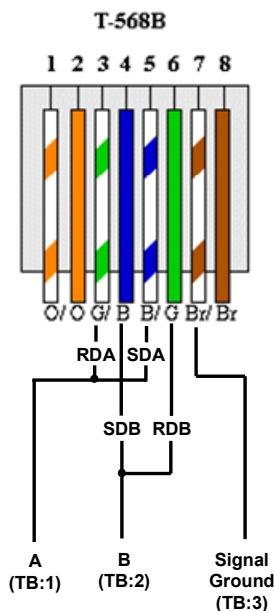
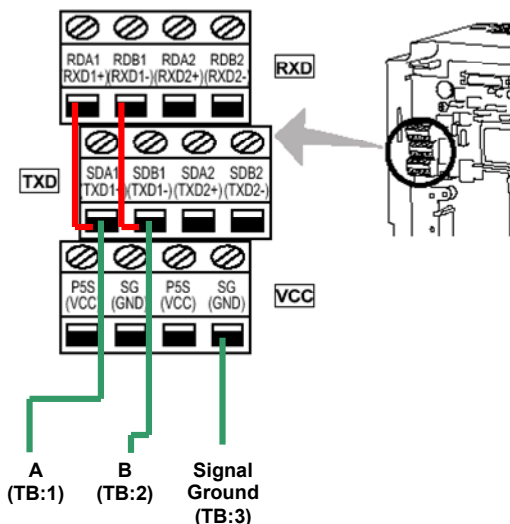

Figure 32: PU Port Connections
Figure 33: 700-Series ASD Connections
Connect as shown in Figure 32.
- For 700-series drives, the gateway can connect to the ASD via either the PU (panel) connector as indicated in Figure 32, or via the on-board RS-485 terminals. Because both of these ports externally present a 4-wire RS-485 network, connecting them to the gateway requires jumpering the network wires for 2-wire format (i.e. connecting SDA-RDA and SDB-RDB). When using the on-board RS-485 terminals, connect as shown in Figure 33.